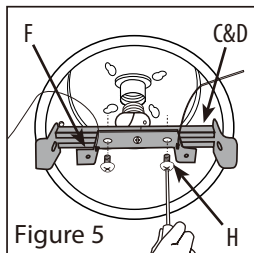

Figure 5
6. Install the mounting bracket (F) and the washer (I) back onto the channel brace (C/D), by using the two side screws (H) removed from step 3 (Figure 5).